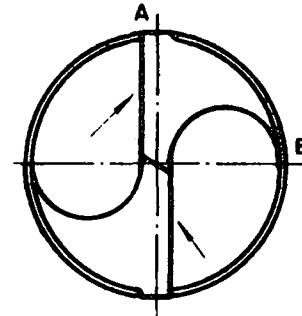

Fig. 3
- b) Turn the drill around until its contact with the grinding wheel covers all the surface from point A to point B (Fig. 3)